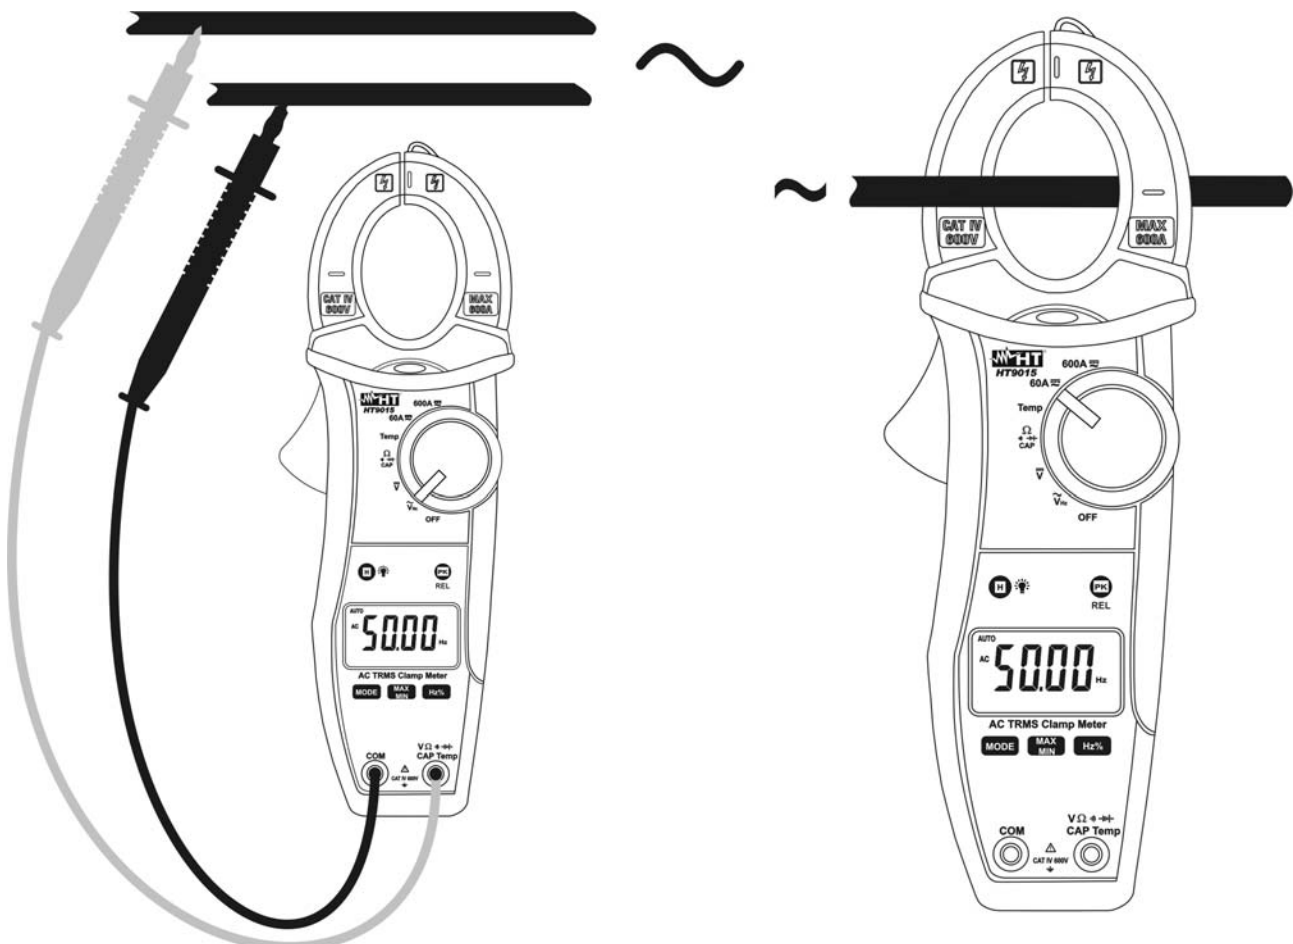

Fig. 15: Taking frequency and duty cycle measurements
3. Insert the red test lead plug into **VΩ+ CAP Hz%Temp** jack and the black test lead plug into **COM** jack (see Fig. 15 – left side) for frequency measurement with test leads. Open the clamp and put the conductor to be tested in the middle of the clamp jaw (see Fig. 15 – right side) for frequency measurements with jaws, then reading will be displayed. Bargraph is disabled in frequency and duty cycle test